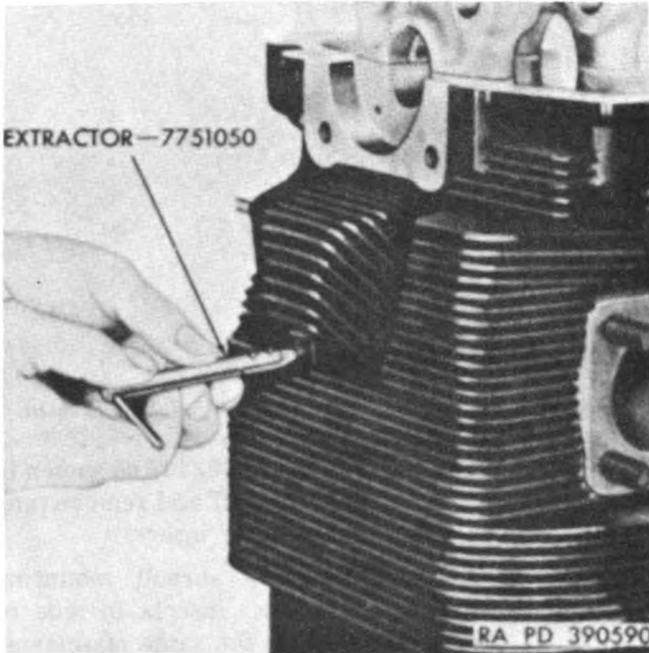

Figure 86. Removing shroud bolt Heli-coil threaded insert.
- (5) Replace damaged shroud mounting bolt hole Heli-coil inserts in side of cylinder head in the same manner as described for spark plug Heli-coil inserts ((4) (a), (b), and (d) through (f) above) except use extractor 7751050 (HH, fig. 10) and inserter 8375242 (U, fig. 10) as shown in figures 86 and 87, respectively. Remove tang ((4) (h) above).
- g. *Valve Rocker Covers (W)*. Repair or replace covers as described in paragraph 79b.